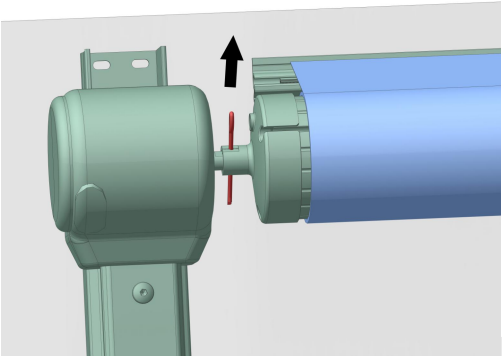

Figure D18
3.7.3 Remove the safety pin on the non-motor side end cover of the reel (Figure D18), release the folding arm, and tighten the fabric roll under force.